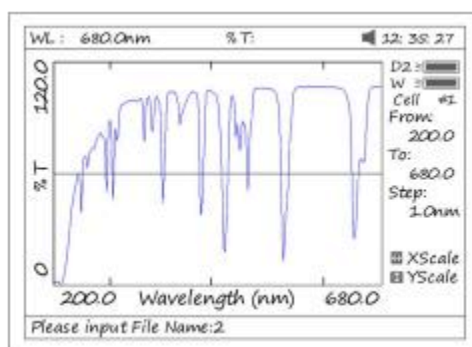

Fig 15
- ✧ Name the curve by pressing the numeric keypad (Fig 15), press the key **【ENTER】** to confirm.
- (2)** If the name already exists in memory, the warning “duplicated name, are you sure ? ” will appear . “Yes” for overwrite and “No” for Exit.
- (3)** The length of filename is less than 4.